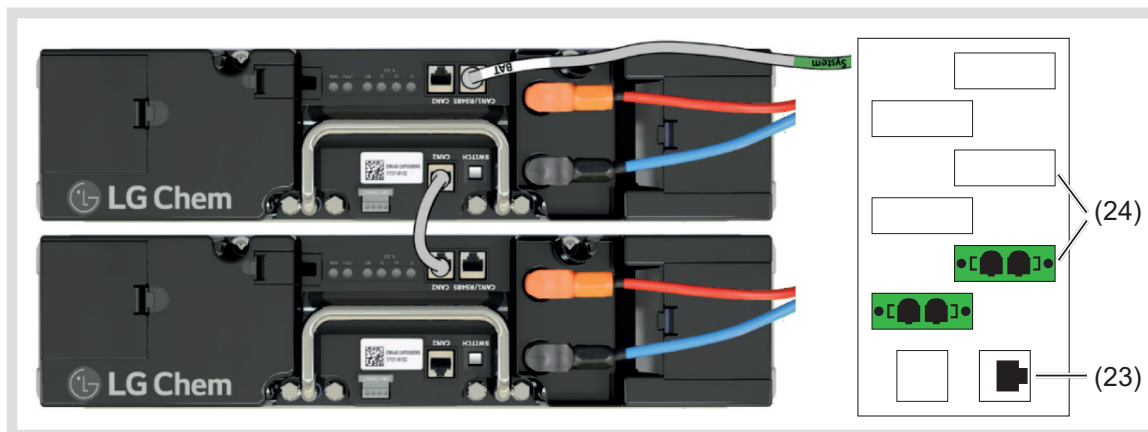

Figure 38: Battery module connection with 2 battery modules
- Plug the green plugs of the battery power cable (20) of the master battery module and slave battery module into one battery jack each (24) of the battery connection field (Figure 38) and secure them by tightening the plug screws.
- Plug the green marked RJ45 plug (a) of the master communication cable (21) into the RJ45 jack (23) of the battery connection field.
- Plug the white marked RJ48 plug (b) of the master communication cable (21) into the RJ48 jack **CAN1/RS485** (11) of the master battery module.
- With the slave communication cable, (22) connect the top **CAN2** jack (16) of the master battery module with the bottom **CAN2** jack (12) of the slave battery module (Figure 38).
- i** There can be a longer period between installing the battery modules and the actual commissioning of the energy storage system. To prevent a deep discharge of the battery modules, switch off the on / off switch (17) on the master battery module.